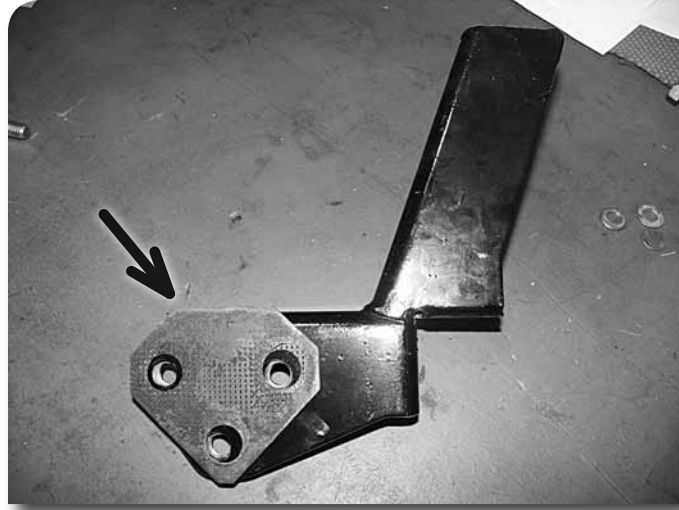
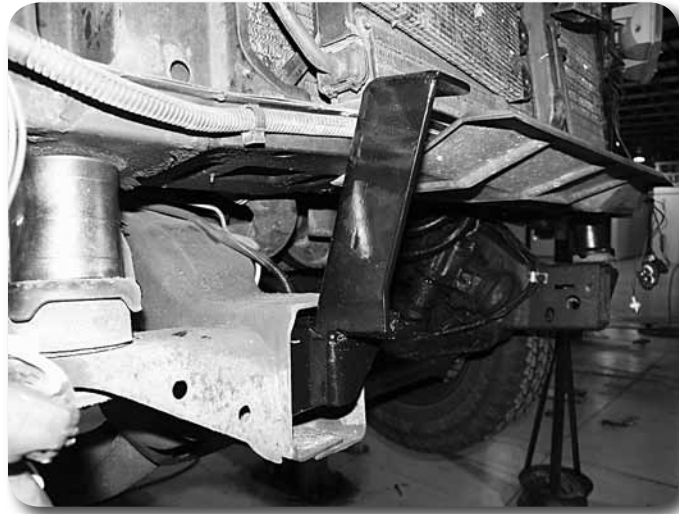

Figure 19
Figure 20
47. Install any factory shims **Figure 19** on the new main bumper brackets that were removed with the original brackets. Loosely install the new front bumper brackets **Figure 20** in the frame using the original mounting holes and stock hardware.